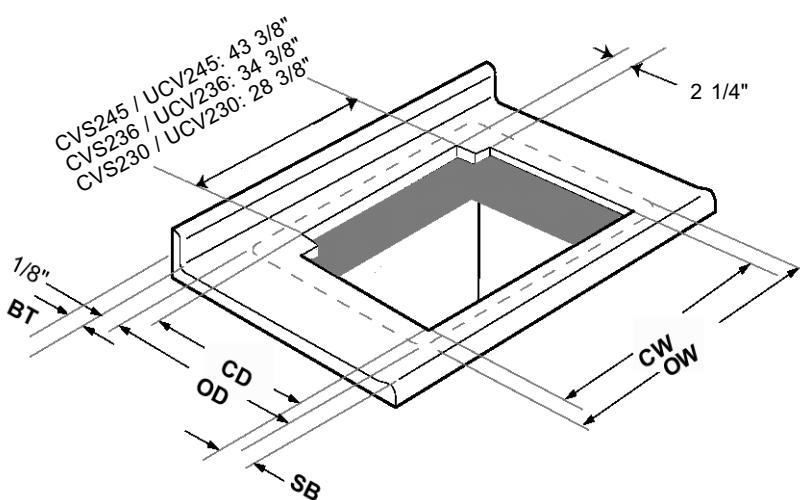

Fig. 7
For installation with a Thermador cooktop, refer to Part A (at left) and Figure 7 (Page 12). For installation with another brand of cooktop, refer to Part B (Page 13).
A. FOR INSTALLATION WITH A THERMADOR COOKTOP (FIGURE 7 AND TABLE 3)